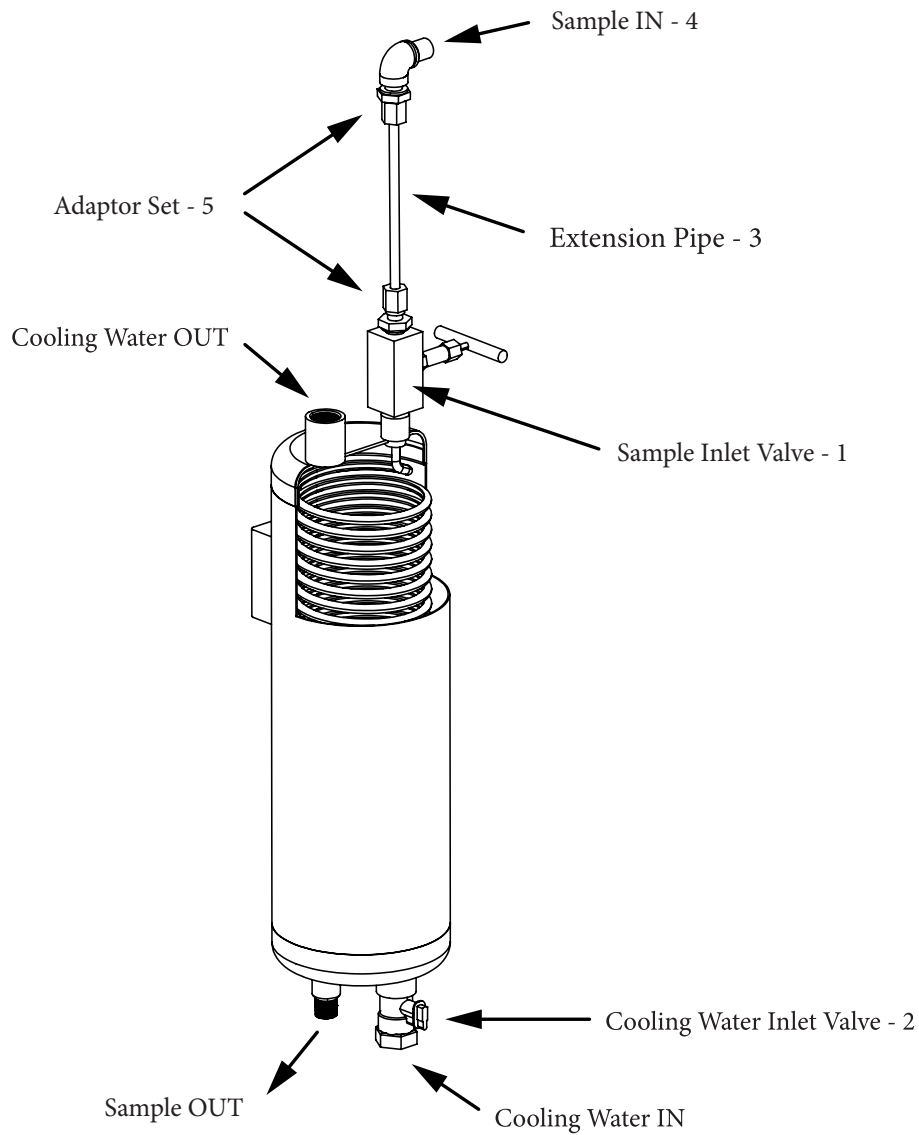

Figure 2 : Sample Cooler Overview
- The sample cooler must be mounted vertically, using the pre-drilled top and bottom mounting brackets (see Figure 2).